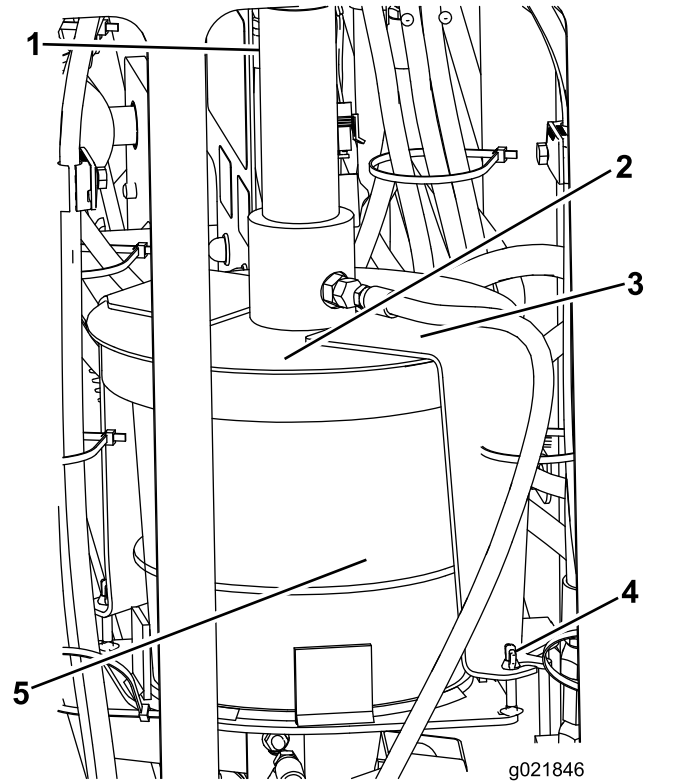

Figure 35
3. Loosen the wing nuts securing the cover straps to the machine (Figure 35).
4. Rotate the cover and pull the cover straps off the retaining bolts (Figure 35).
5. Lift the cover assembly off and out of the empty thread-joint-compound bucket (Figure 35).
7. Place the plunger into the new bucket and lower the cover assembly onto the bucket (Figure 35).
8. Slide the cover straps over the retaining bolts and rotate the cover to seat the straps on the bolts (Figure 35).